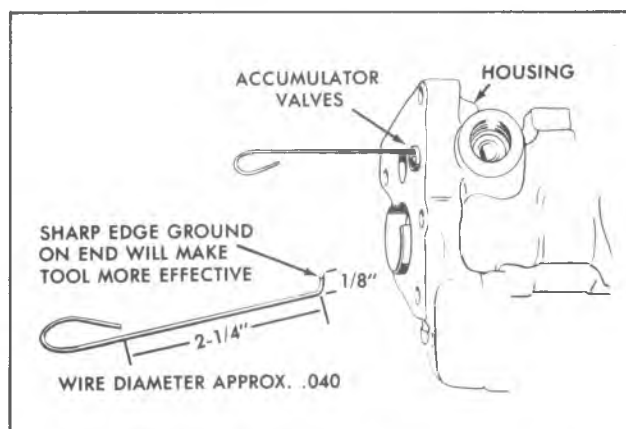
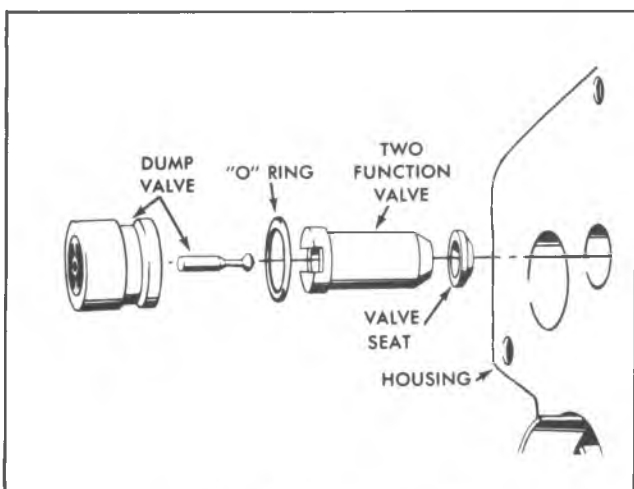

Fig. 5-5E-Removing Accumulator Valves
Fig. 5-8E-Accumulator Valves
15. If accumulator valve was determined to be faulty, remove valve using a small diameter wire tool (fig. 5-5E). Remove the dump valve by catching the tool under the pin guide near the center of the valve, then remove two function valves and seat (fig. 5-8E).
10. If accumulator valve was removed, install new seat into the valve bore. The seat can be forced to the bottom by installing the two function valve (fig. 5-8E).